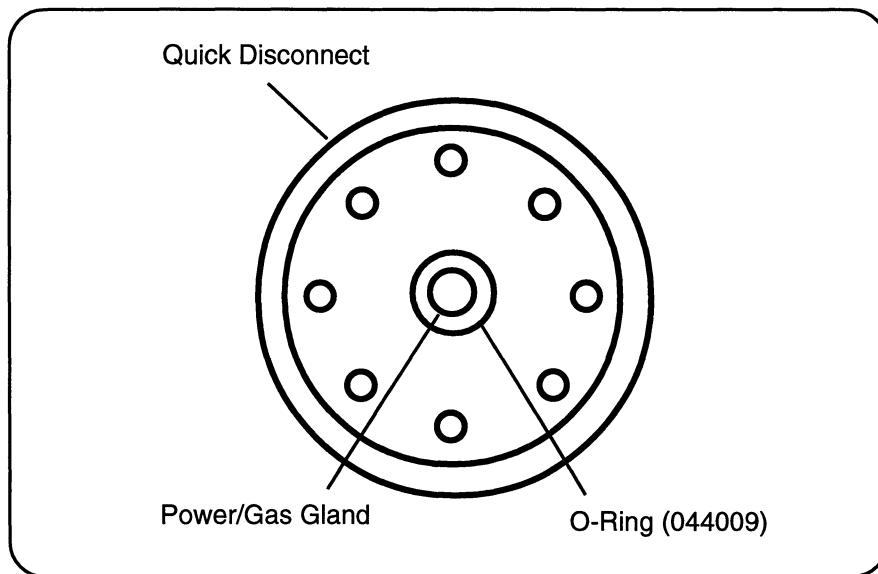

Figure 5-5 Quick Disconnect O-Ring Removal and Replacement
The quick disconnect O-ring (044009) on the torch leads is required to provide a tight seal between the quick disconnect and receptacle on the power supply, so that the plasma gas does not leak during cutting. To remove and replace the O-ring in the event of damage or wear, proceed as follows and refer to Figure 5-5.
1. Set the MAX43 power switch to OFF (O), unplug the power cable, and disconnect the gas supply.
3. Remove the O-ring from the quick disconnect as shown on Figure 5-5 using needle nose pliers, tweezers, etc.